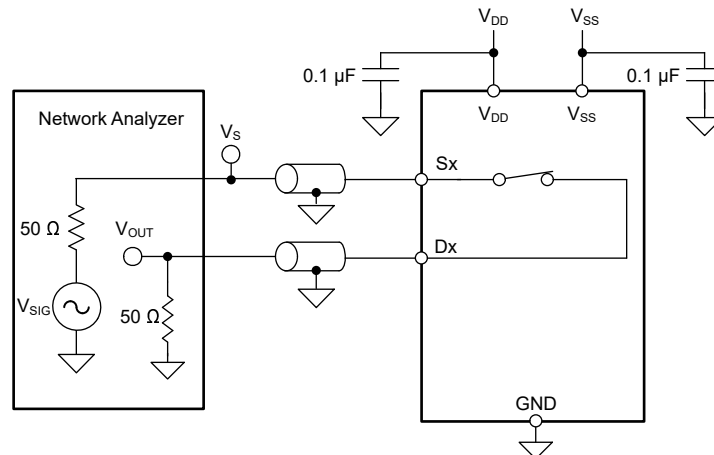

**Figure 7-9. Crosstalk Measurement Setup**
Crosstalk is defined as the ratio of the signal at the drain pin (D) of a different channel, when a signal is applied at the source pin (Sx) of an on-channel. Figure 7-9 shows the setup used to measure, and Equation 3 shows the equation used to calculate crosstalk.